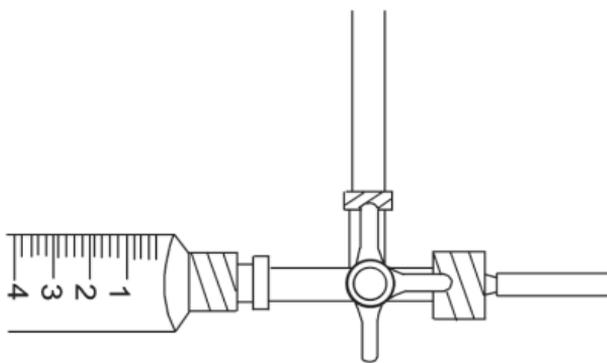

Figure A-7
- After refilling the manometer, turn the stopcock to connect the manometer with the bath (Figure A-7).
- Turn the stopcock to connect the manometer to the valve (Figure A-7 above).